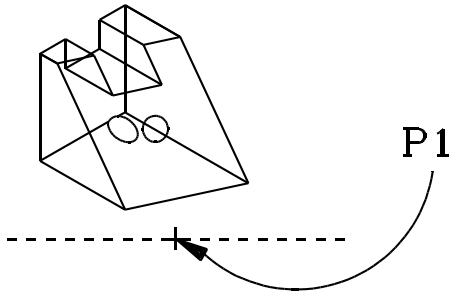

Figure 22
55. Click on SET DEPTH, then click on point P1. (See Figure 22.)
59. Click on ERASE, then click on point P1, as shown in Figure 22.